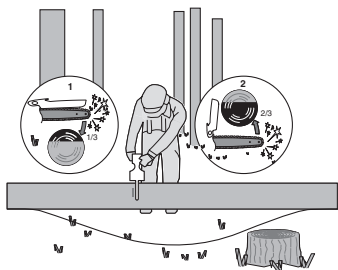

Figure 4
When the log is supported on both ends, as illustrated in Figure 4, cut 1/3 the diameter from the top (overback) (1). Then make the finished cut by underbacking (2) the lower 2/3 to meet the first cut.